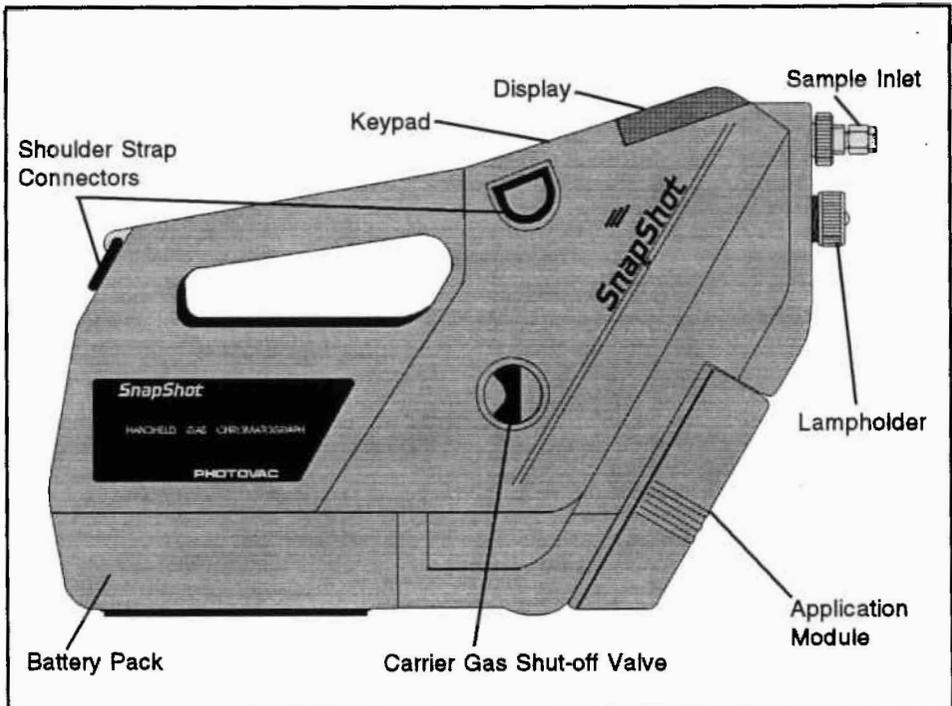

Figure 1 SnapShot Layout
1. If the instrument has been turned on, turn it off by pressing the **OFF** key and stop the flow of carrier **gas** by turning the **carrier** gas shut-off valve fully clockwise. See Figure 1.